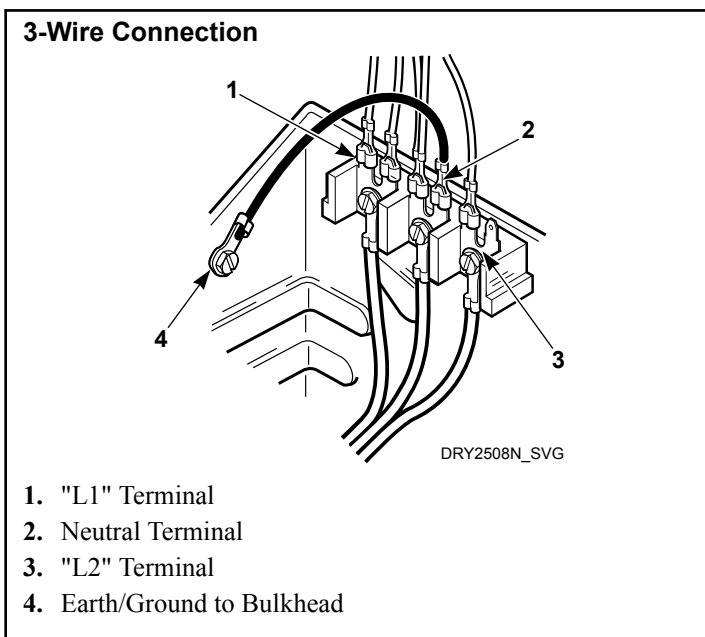

Figure 17
4. Use the three screws from the accessories bag to attach the power cord wires to the terminal block. Refer to *Figure 17*.